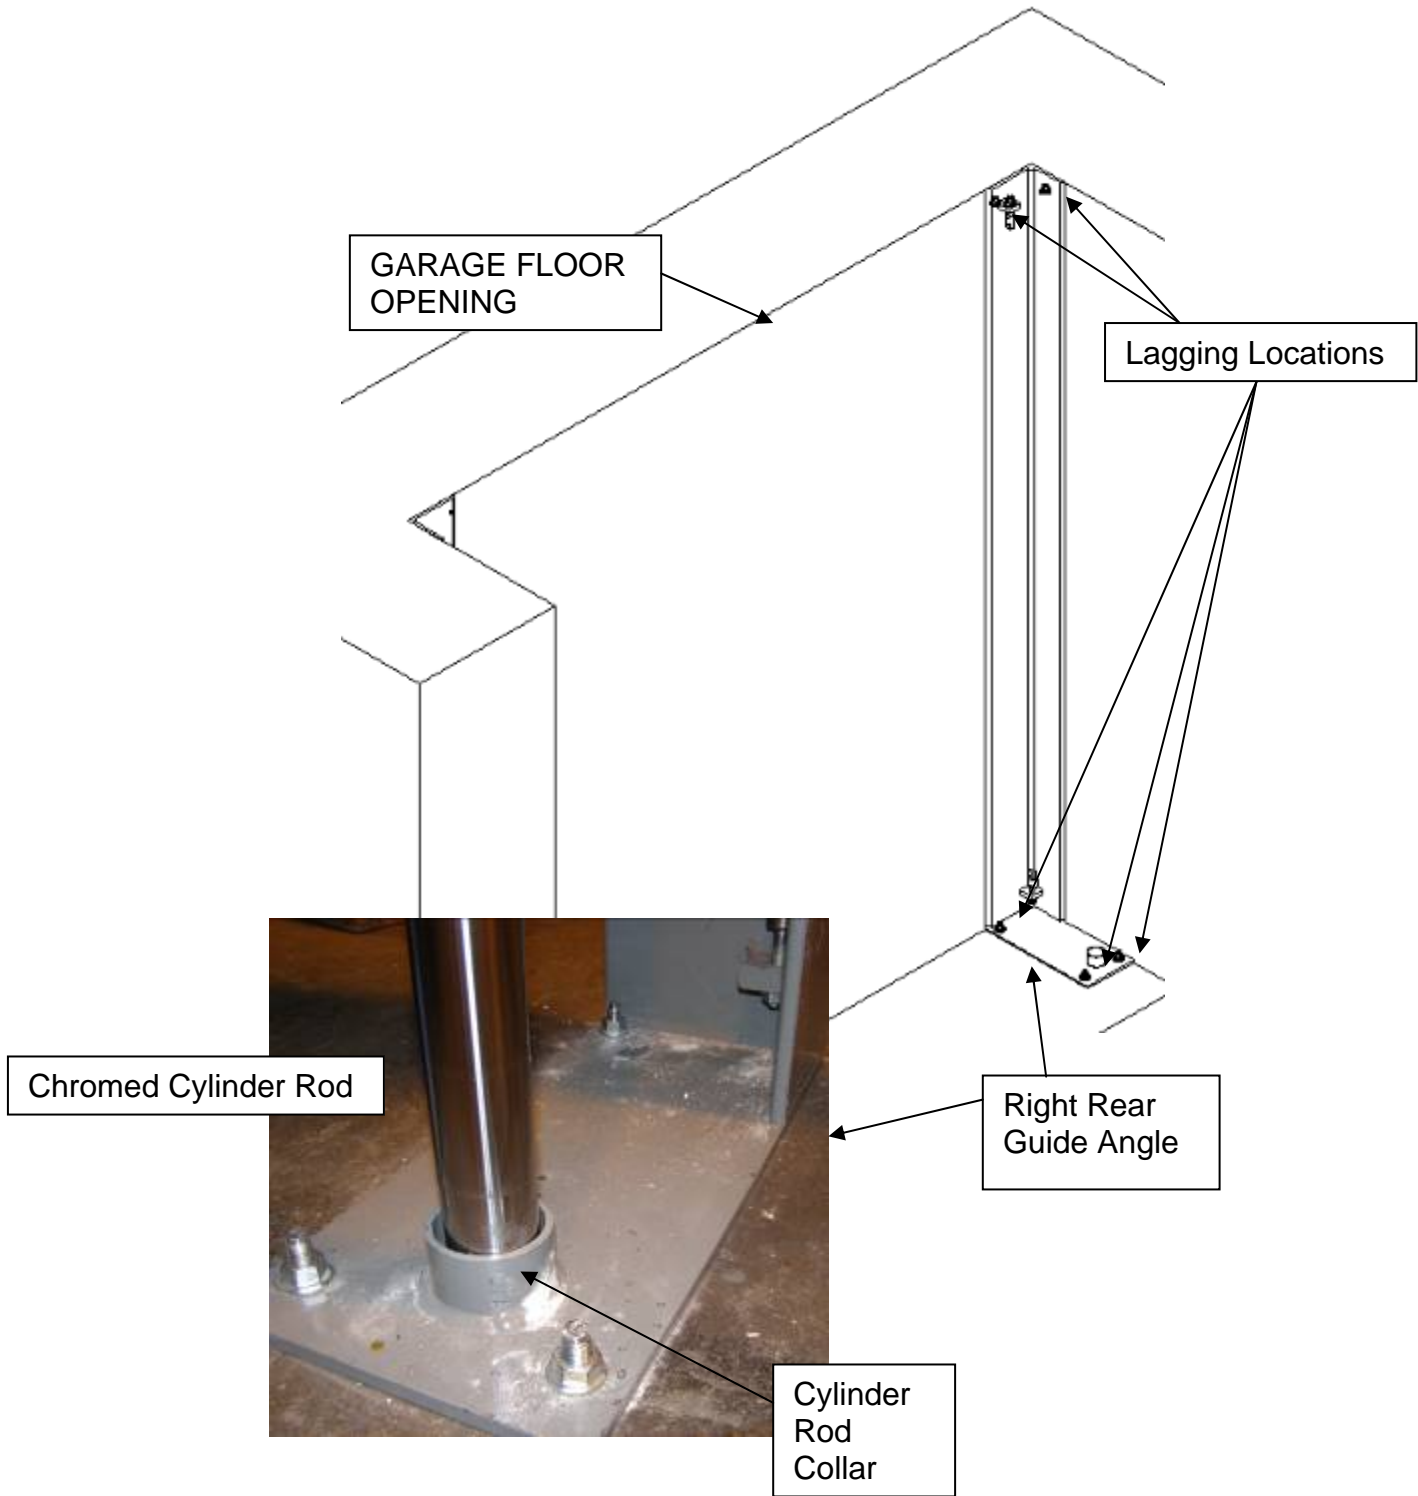

Figure 13 Corner Guide Installation
A. MOUNTING THE VERTICAL (CORNER) GUIDE ANGLES (Reference Fig.13)
4. Cylinder bleeder screws at top cylinder casings can be loosened (cracked) – but not removed – to allow rods to extend down to basement level and into the collars welded to the corner guide base plates (Ref. **Fig. 13, 24**)